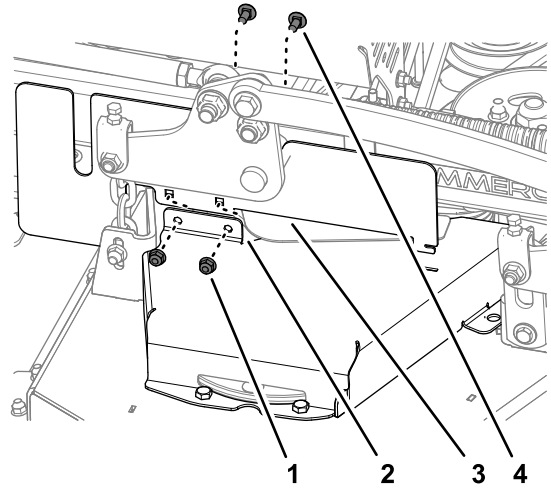

**Figure 40**
1. Assemble the right belt cover to the deck (Figure 40) with the 2 bolts that you removed in Removing the Left Belt Cover (page 28).